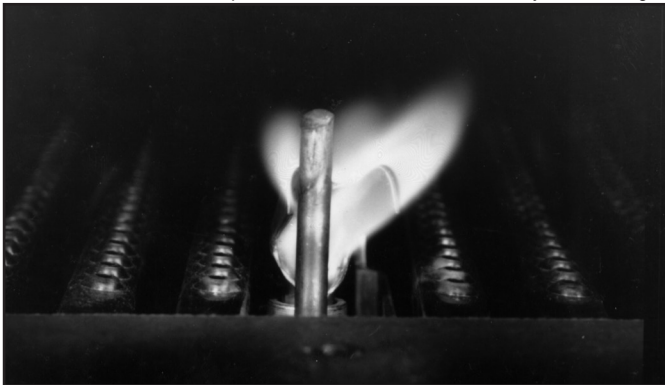

Figure 7. — Pilot Flame Pattern (Standard Burner)
A. BURNERS — Visually inspect the main burner flame and the pilot flame at least every three months. Refer to Figures 7, 8, 9, or 10 for normal flame pattern. Fallen scale can usually be dislodged